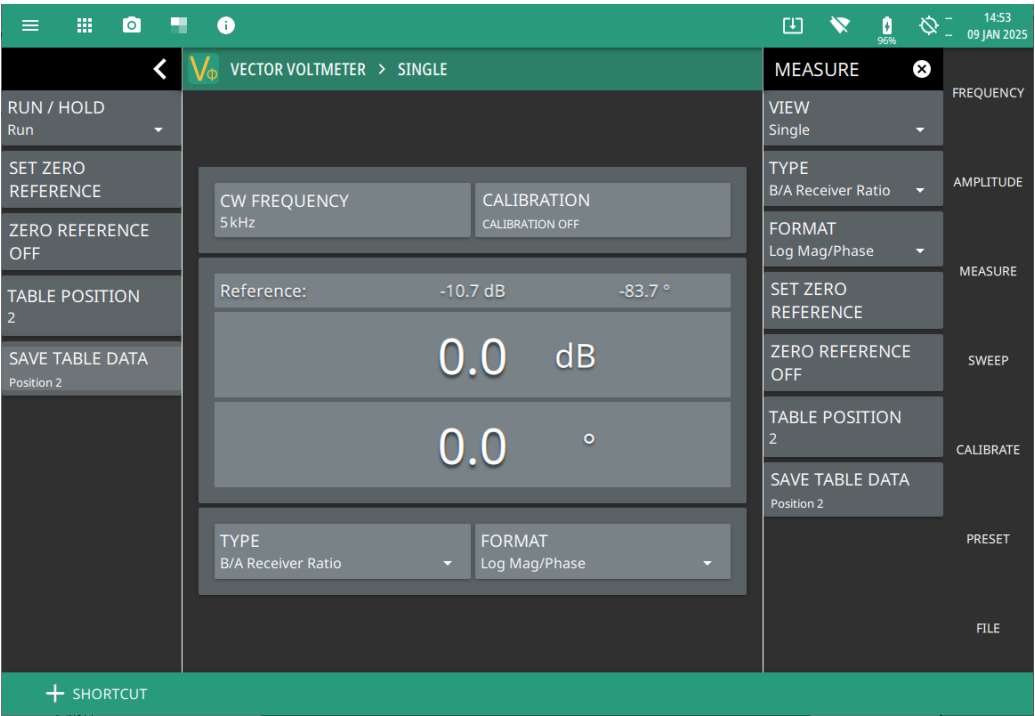

Figure 3-9. First Side of Splitter Measured and Saved as Reference
2. Connect one output side of the splitter to Port 2, and connect a 50 Ohm load to the opposite output side. Press SAVE TABLE DATA to use this measurement as reference when you measure the other output side of the splitter. See Figure 3-9.